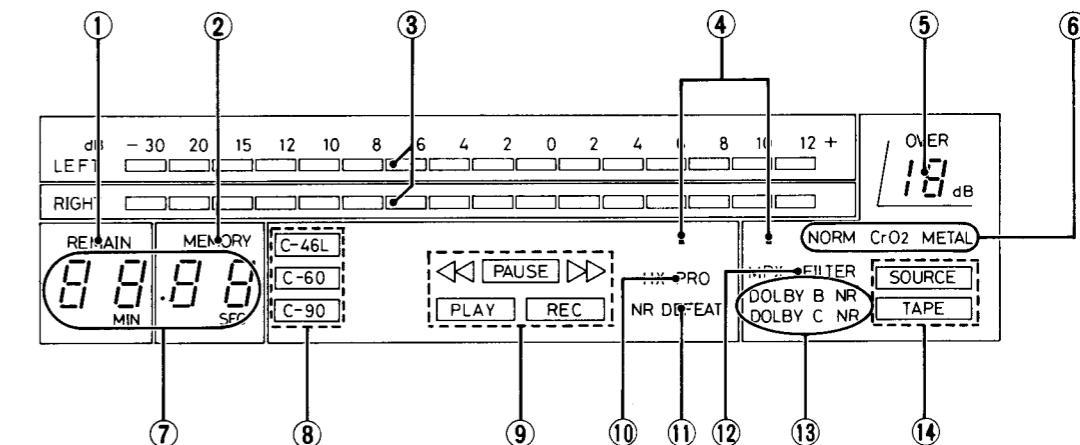

Fig. 4-2
② POWER switch
③ Cassette holder
④ MULTI MODE display (See Fig. 4-2)
- ① Tape remaining time display
- ② MEMORY indicator
- ③ PEAK LEVEL METER
- ④ Recording guide indicator
- ⑤ Digital peak indicator
- ⑥ Tape indicator
- ⑦ Digital counter
- ⑧ Tape length indicator
- ⑨ Mechanism mode indicator
- ⑩ HX PRO indicator